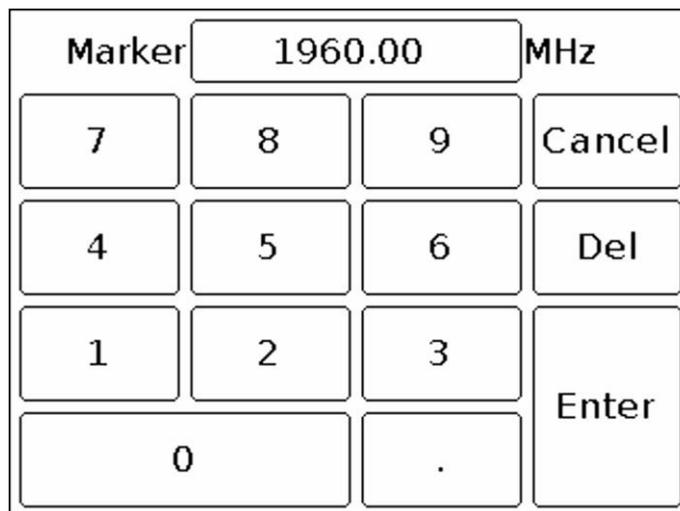

Figure 12 – Entering numerical values of marker frequencies
7.5.3. Setting the specified marker frequency is performed by entering a numeric value in the opened submenu, as in figure 12. Enter a numeric frequency value and press **Enter (enter data)**. To delete erroneous or previously entered values, press **Del (Delete)**. To refuse to enter a value, click **Cancel**. In our example, in figure 12, we set the frequency to 1960 MHz for marker.